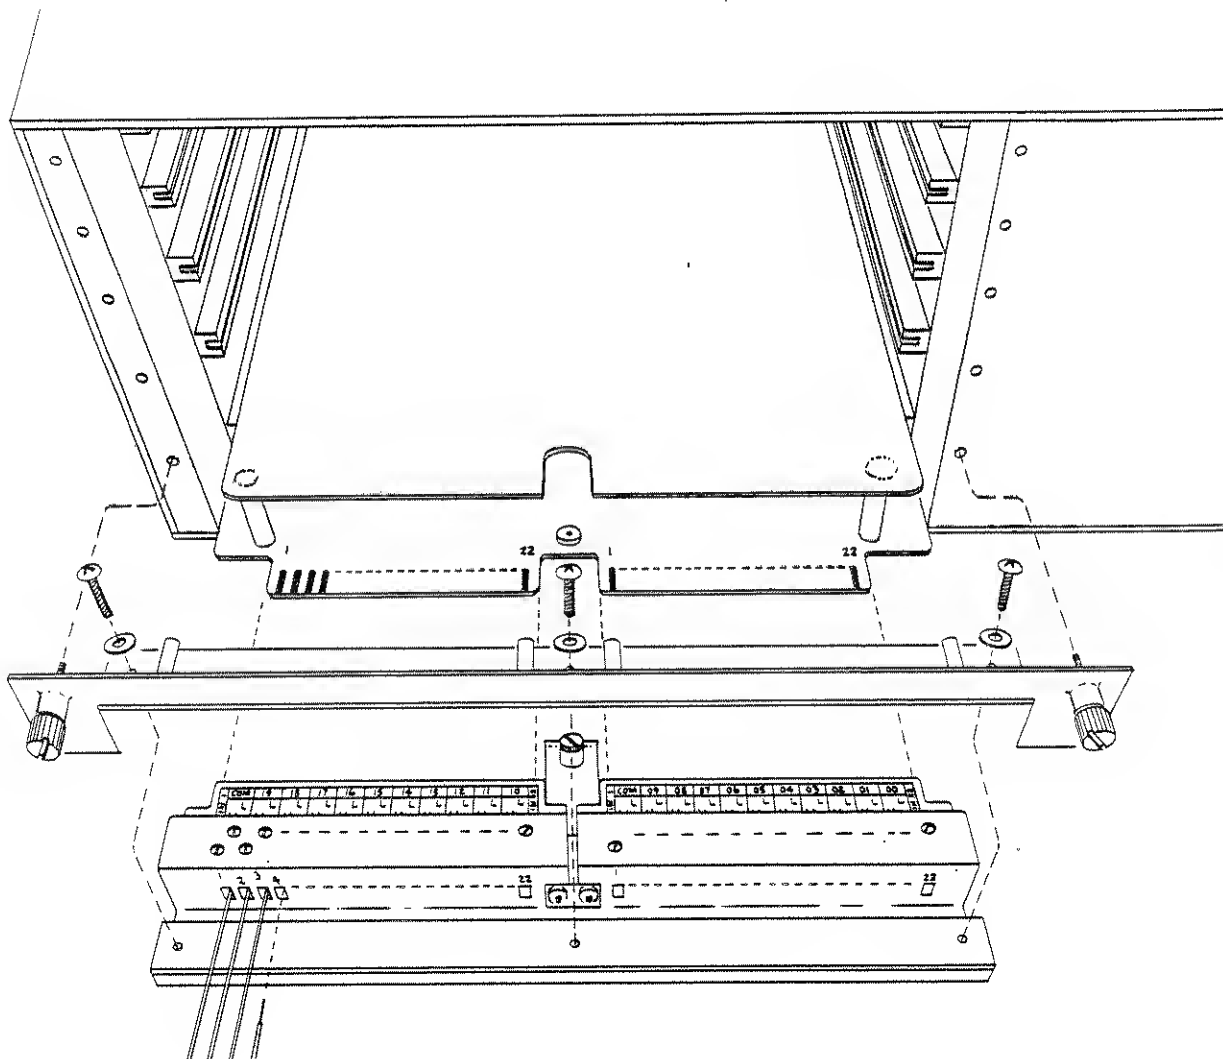

Figure 2-2 - 1250 Switching Module Installation
- 2.5.2.1 Each of the five plug-in switch modules is easily installed, using its corresponding card guides, into the rear of the 1250 mainframe as shown in Figure 2-2. Modules may be removed without the need for desoldering or removing the mainframe from the system. At installation, ensure that the front of the plug-in module is securely connected to the Analog and Interconnect Buses using their respective connectors and plugs at P2 and P1.
- 2.5.3.1 All low-frequency switch modules, like the 1250-30 Scanner/Multiplexer module, have special screw terminal blocks which incorporate strain-relief cable supports. Again refer to Figure 2-2 showing these features. The terminal blocks are attached to the module with gold-plated edge connectors secured with a rapid-release screw. The user may either remove only the terminal block assembly or the entire module with attached terminal block from the 1250 mainframe. The terminal block assembly has a quick-release feature (using two slotted fast-operating screws) which permits rapid